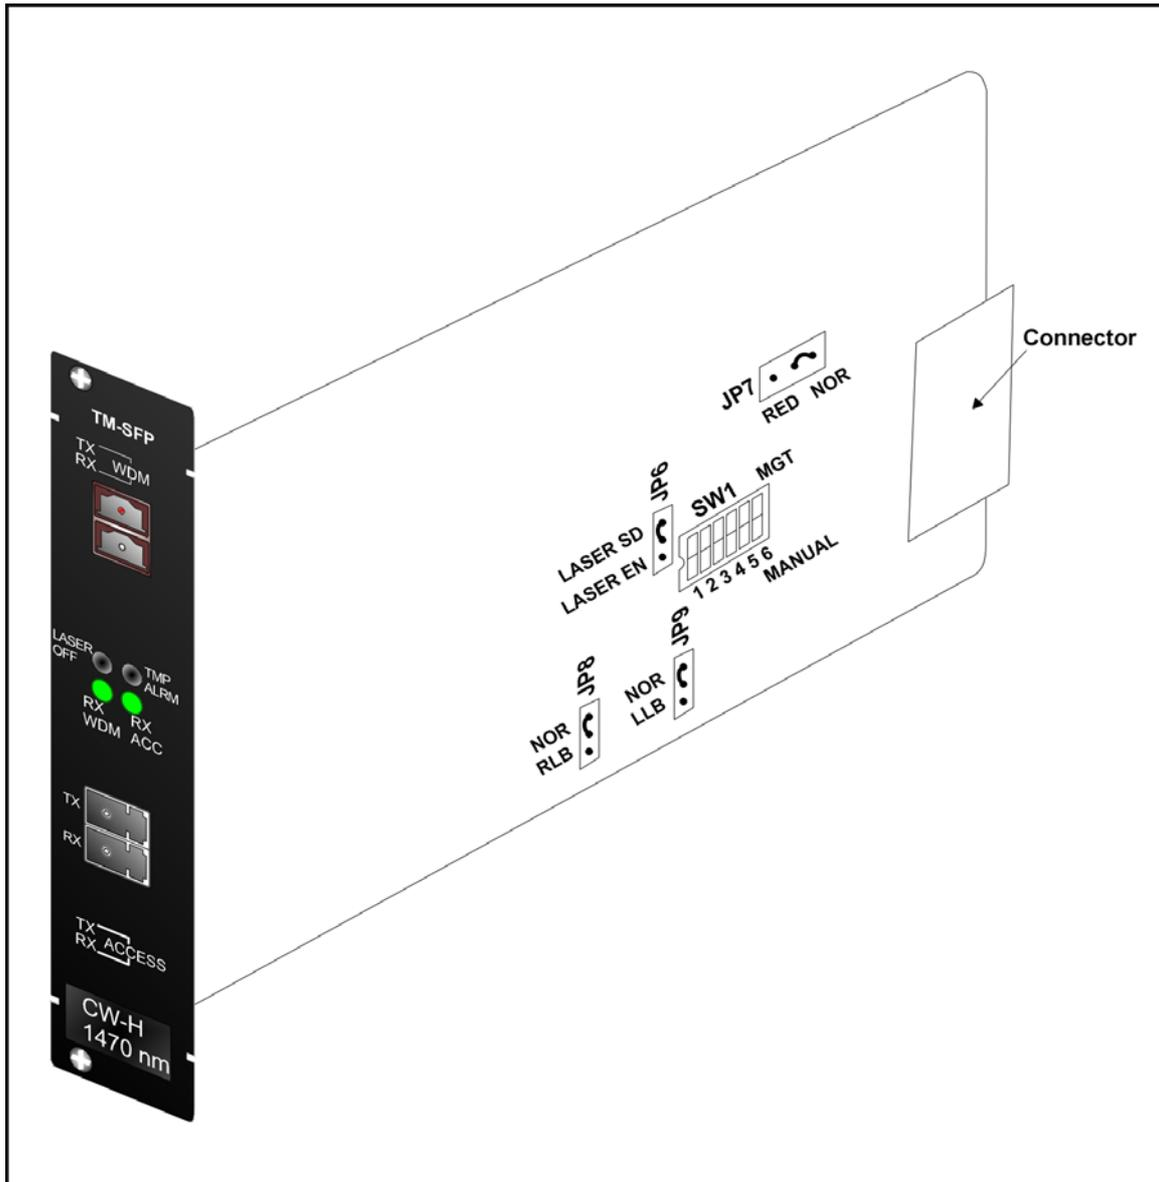

Figure 36: DIP Switch Location on TM-SFP Transponder Module
1. With the aid of *Figure 36*, locate Jumper **JP6** on the TM-SFP Transponder module and position it using *Table 6*.
2. With the aid of *Figure 36*, locate Jumper **JP7** and position it using *Table 7*.
3. With the aid of *Figure 36*, locate Jumper **JP8** and position it using *Table 8*.
4. With the aid of *Figure 36*, locate Jumper **JP9** and position it using *Table 9*.
5. With the aid of *Figure 36*, locate DIP switch **SW1** on the TM-SFP Transponder module. To enable configuration by *software*, set the DIP switch as shown in the *first* row of *Table 13*.